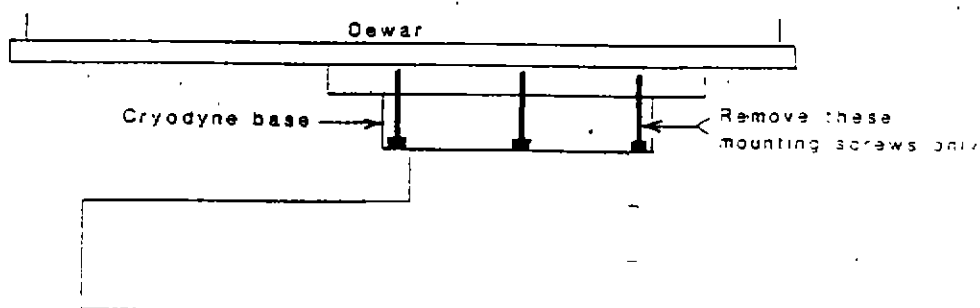

fig 6.1
3. Remove the six (6) mounting screws from the cryodyne base. Refer to fig. 6.1